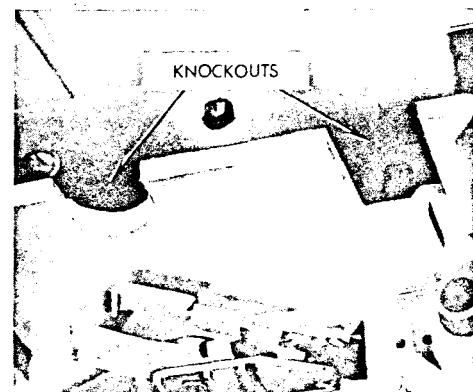

Fig. 14
6. For initial installations only remove knockouts in cover (manual breakers) or inner cover (electrical breakers) as shown in Fig. 14. This action is required to accommodate the molded drive crank and trip paddle.